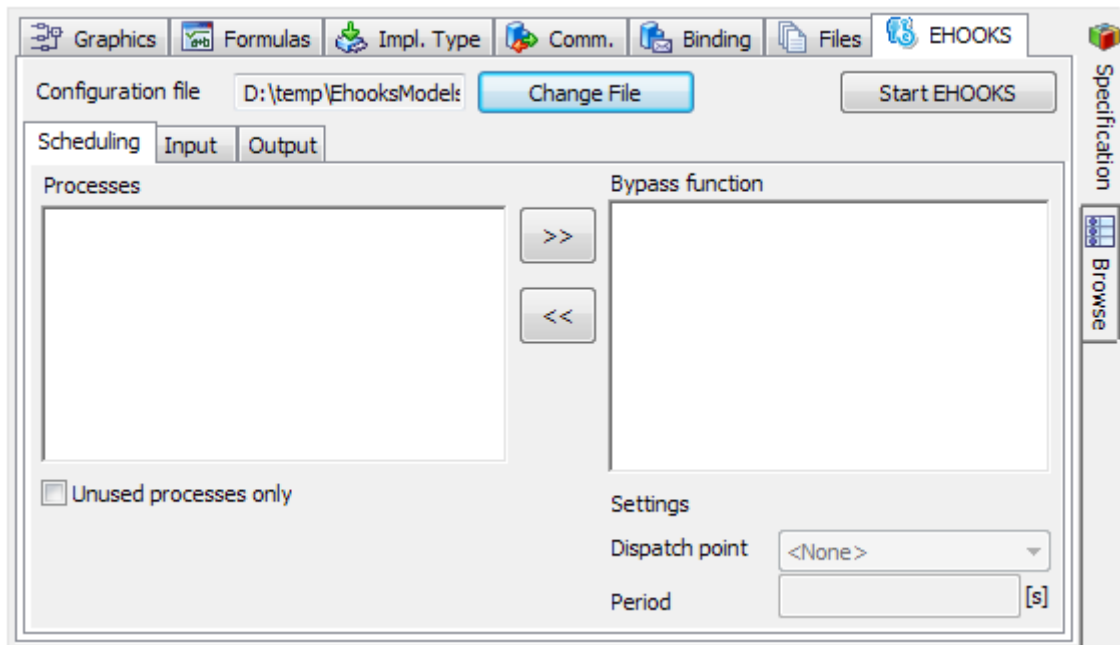

Figure 4.3: "EHOOKS" tab with EHOOKS configuration file
- In the "EHOOKS" tab, click on **Start EHOOKS** (see Figure 4.3 on page 16).